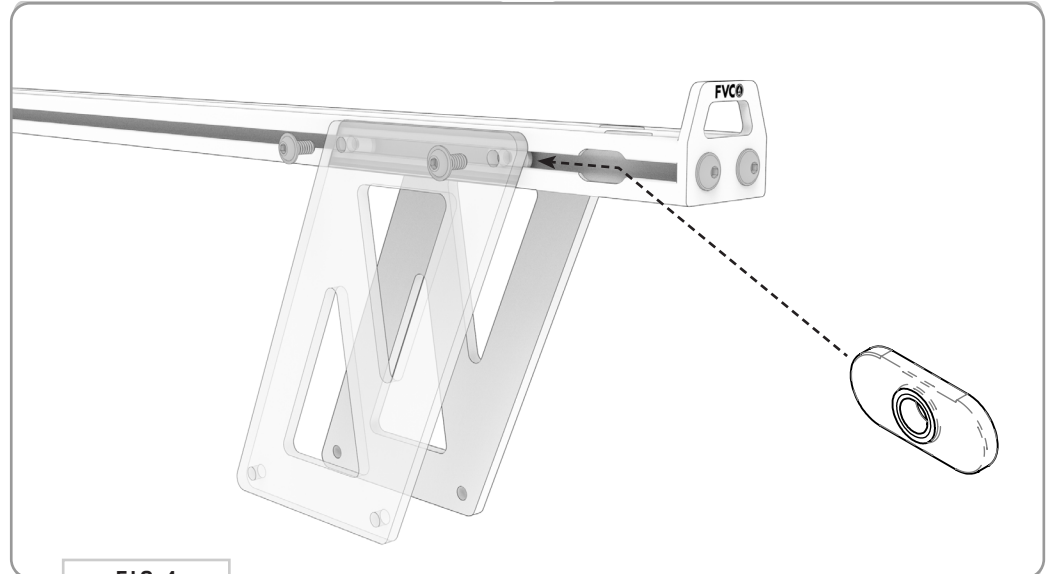

FIG 4
2.2 Insert T-Nuts: Slide (2) 1/4-20 T-Nuts into the cutouts of the Crossbar (FIG 4).